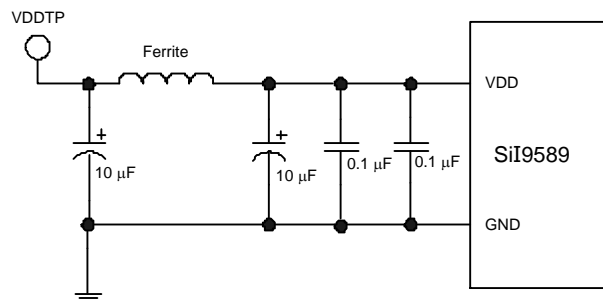

Figure 3.1. Test Point VDDTP for VDD33 Noise Tolerance Specification
1. The supply voltage noise is measured at test point VDDTP shown in Figure 3.1. The ferrite bead provides filtering of power supply noise. The figure is representative and applies to other VDD pins as well.